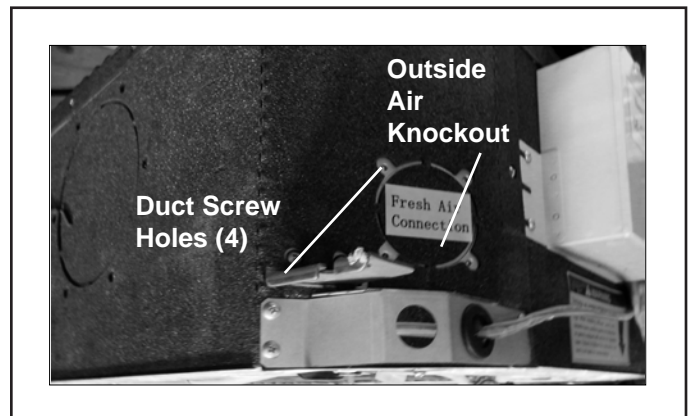

Figure 17. Typical Outside Air Knockout
5. Knock out the outside air supply opening. See Figure 17.